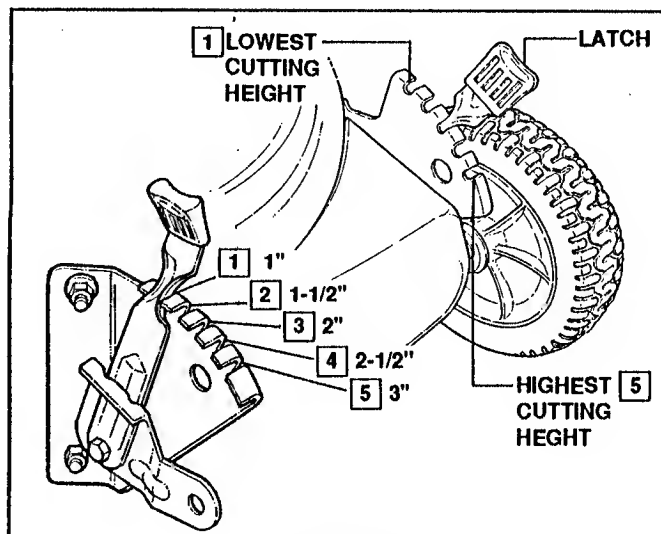

FIGURE 2.5
- A. Pull the height adjusting latch outward towards the wheel and move to desired notch. See Figure 2.5.